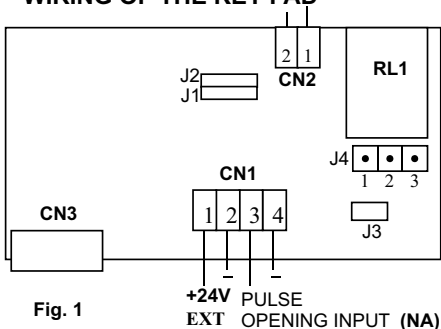

Fig. 1
- Plug the decoder module in the radio connector or wire to the terminals (see Fig. 1) if the connector is already being taken.